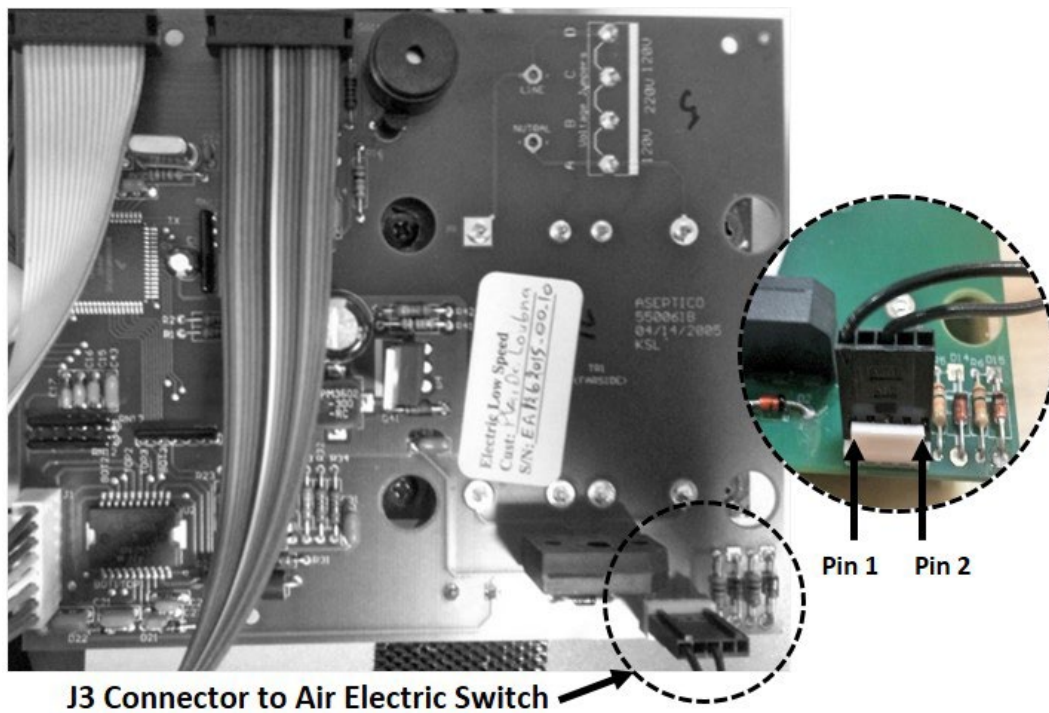

Fig. 6
8. Disconnect J3 connector to air electric switch. (Fig 6)